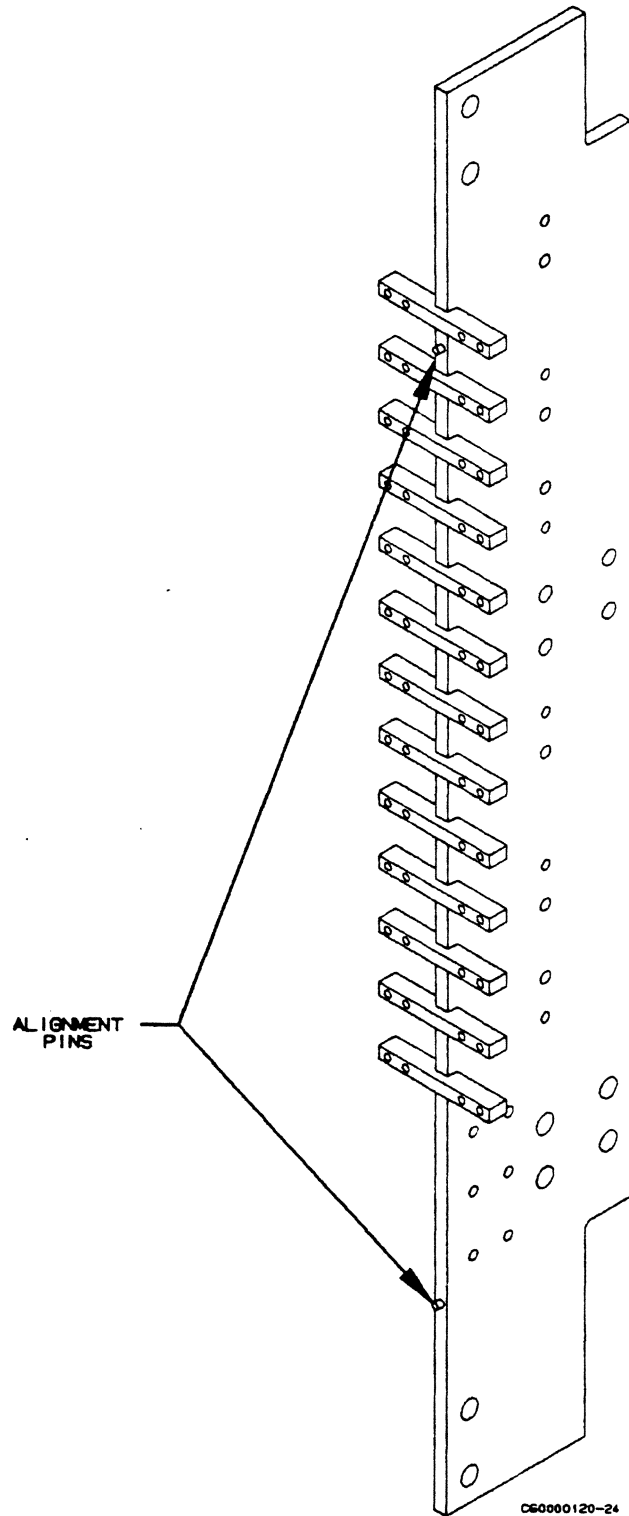

Figure 3-15. Bus Bar Alignment
- ___ 1. Lift up on WV1 from rear of CP-1. Push up and against alignment fixture until alignment pins at top and bottom of bus bars pop into mating holes in fixture (figure 3-15).